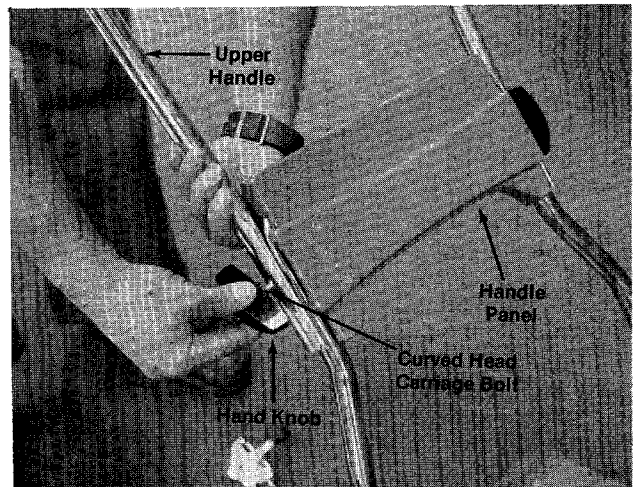

FIGURE 3.
5. Place the upper handle over the lower handle and line up the holes as shown in figure 3.
6. Insert the curved head bolt from the inside and tighten the knob by hand. See figure 3.